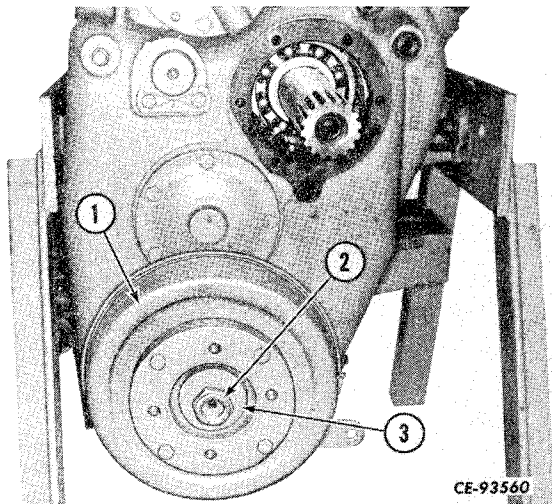

Figure 4-88
Install yoke and drum assembly (1, Fig. 4-88) and secure with washer (3) and lock nut (2). Tighten lock nut to the recommended torque (refer to "SPECIAL TORQUES").